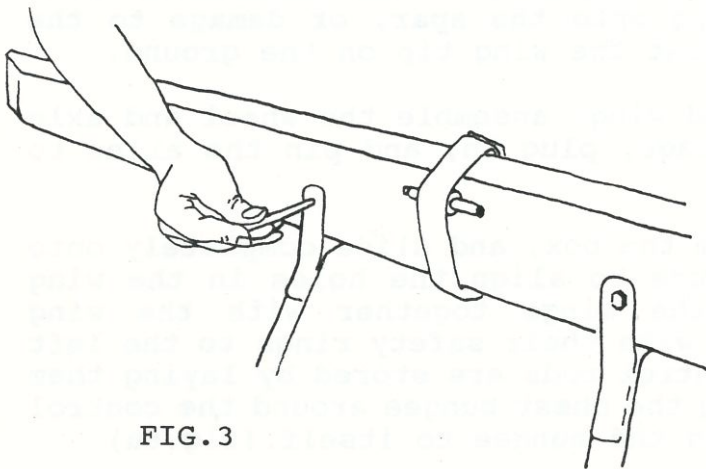

FIG. 3
3. Remove the main spar from the box, slide spar through parachute bridle. Bolt the spar to the top of the cage sides with the tapered ends of the spar sweeping back, and the bolt holes closer to the bottom of the spar.(fig.3)